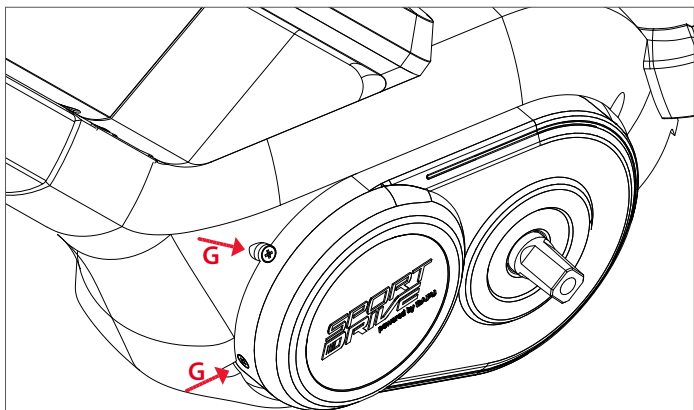

Figure 4.9 Mid motor assembly 5
9. Use two M3 x 6 fasteners [G] to attach the motor cover to the motor cover (Fig. 4.9). Tighten the fasteners to 0,7Nm
11. Use two M3 x 6 fasteners [G] to attach the motor cover to the motor cover (Fig. 4.9). Tighten the fasteners to 0,7 Nm
- 9) Use two M3 x 6 fasteners [G] to attach the motor cover to the motor cover (Fig. 4.9). Tighten the fasteners to 1Nm